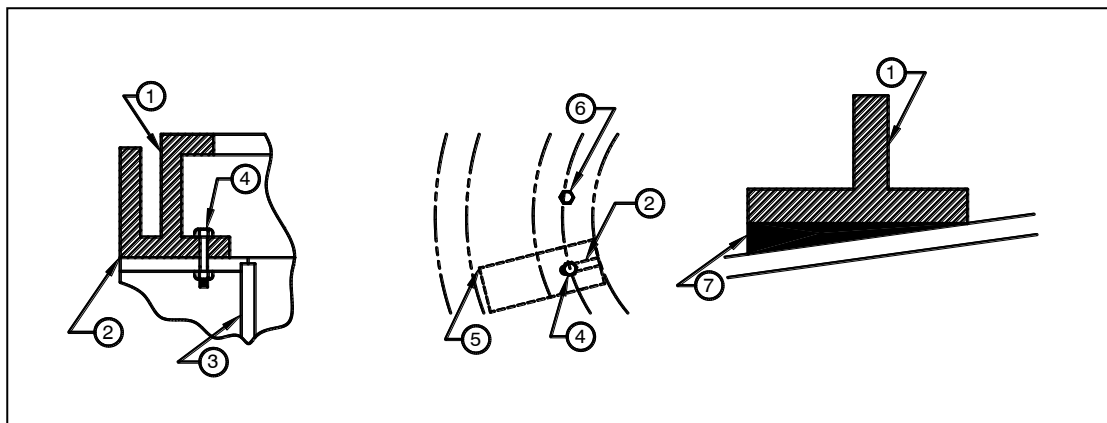

Figure 2.11c
- c. Shim at the mounting capscrews, using the Ovivo furnished shims and referring to Figure 2.11c. Insert shims from the outside of the drive to the inside. Since the shims ensure the level of the drive for optimum service life of the main bearing, use only these stainless steel shims provided by Ovivo. Do not use any other type of shims or shim material.